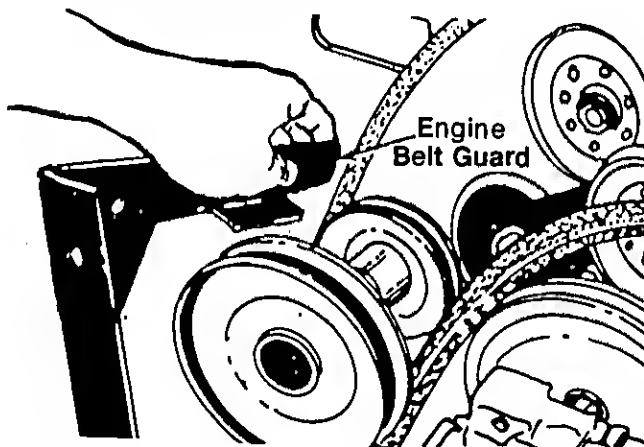

FIGURE 29.
7. Remove two hex bolts, nuts and lock washers from the engine pulley belt guard at rider frame to allow the engine pulley belt guard to drop down out of the way. See figure 29.